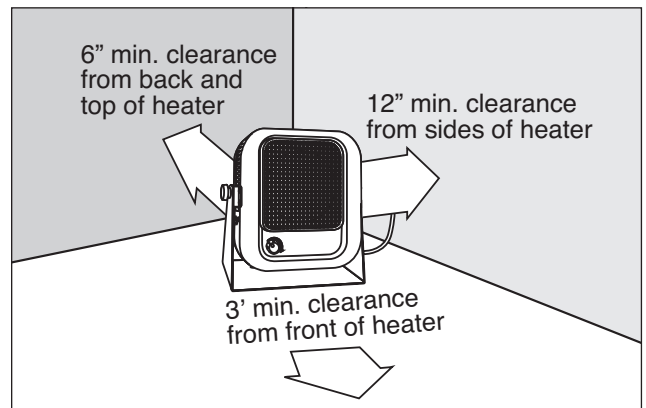

Figure 3
5. Heater must be kept clear of all obstructions: 3 foot minimum clearance from front, 6 inch minimum clearance from back and top, and 12 inch minimum clearance from sides. See Figure 3.